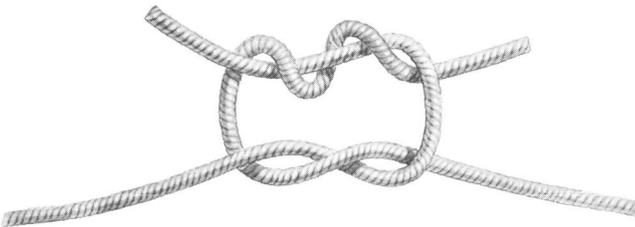

FIG. 1—Modified Square Knot
4.02 A modified square knot, made by taking an extra turn in the rope ends, is satisfactory for use with plastic rope. The method of tying the knot is illustrated in Fig. 1.